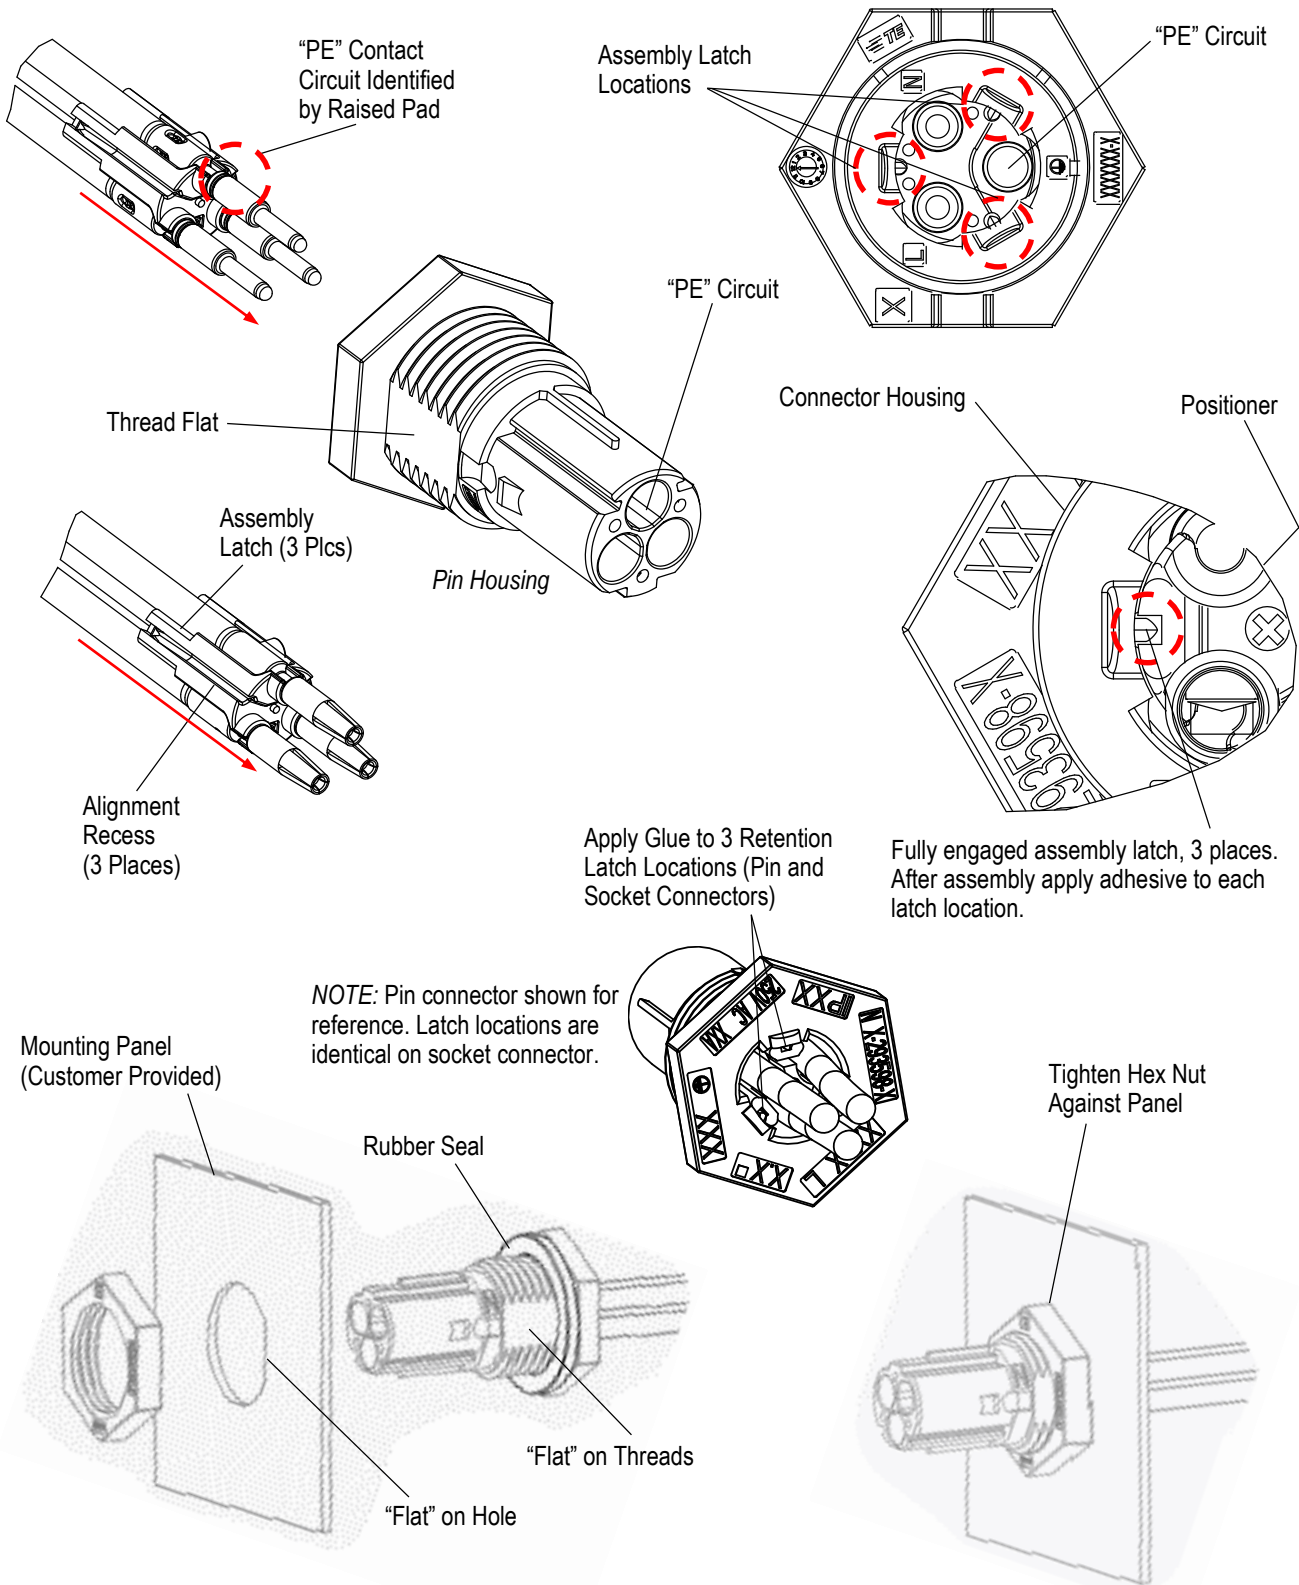
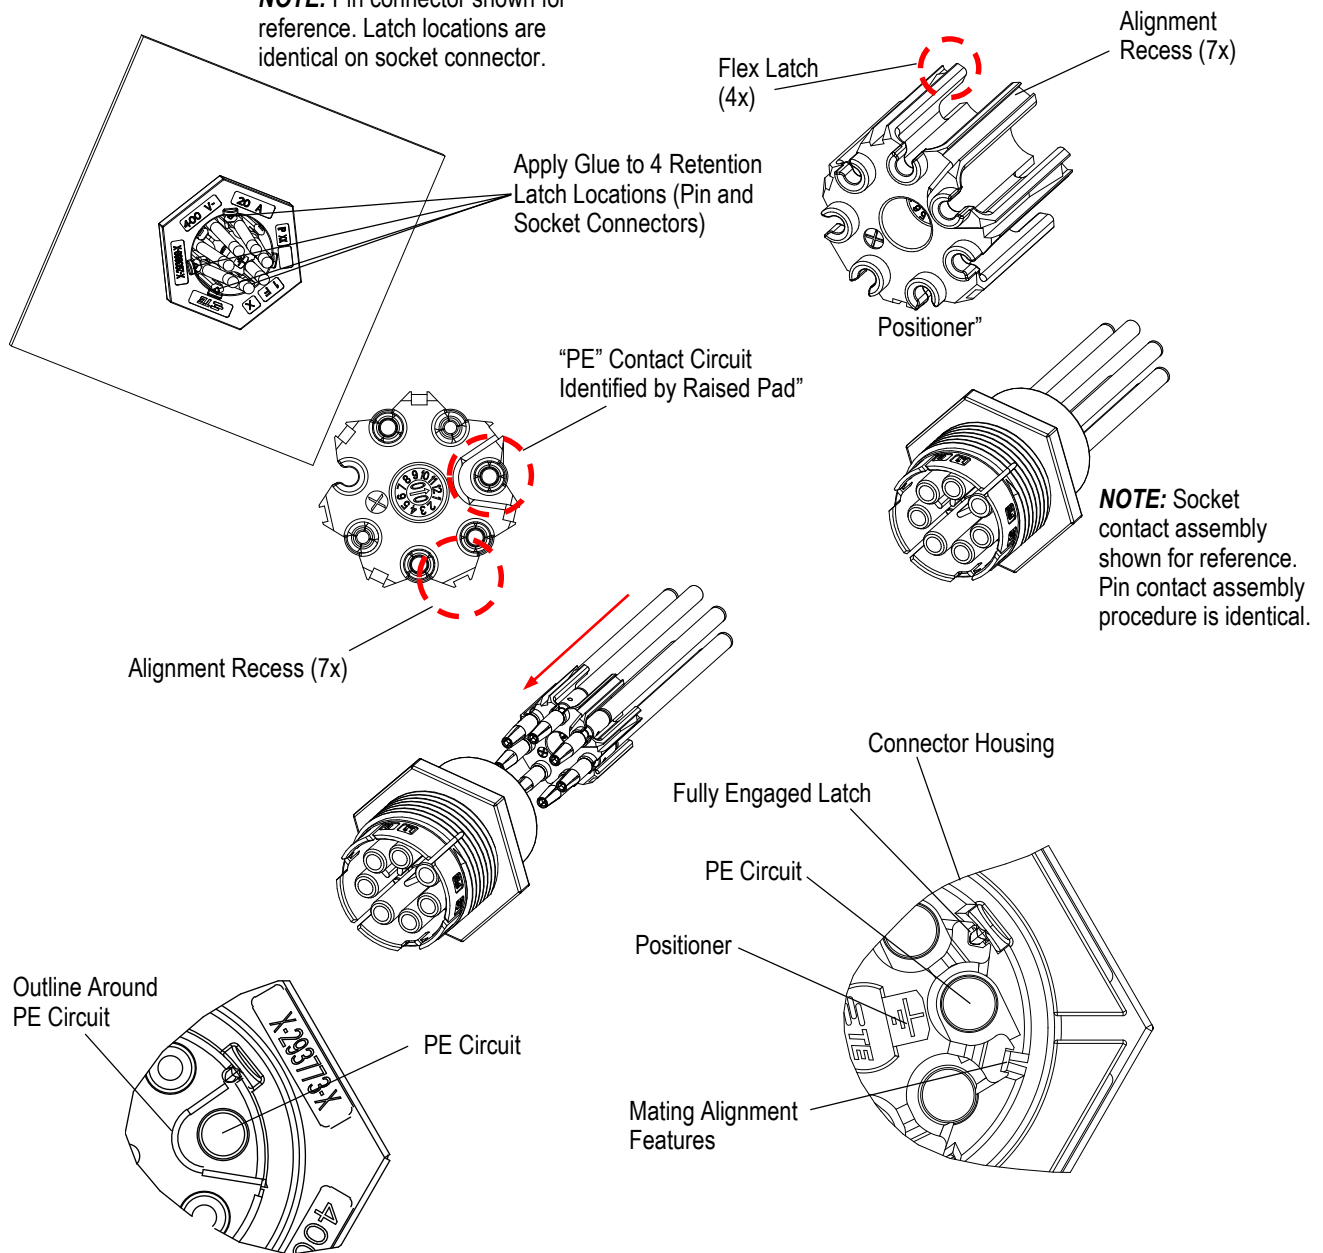

Figure 14
Figure 15
4. Repeat this assembly procedure for each Positioner “contact slot” to receive a contact, maintaining corresponding contact/positioner circuit assignments “L”, “S”, and “N” per Figure 14.
The NECTOR M Standard panel-mount connectors are assembled by inserting a contact positioner assembly into the panel-mount housing, as shown in Figure 14 (NECTOR M 3-circuit) and Figure 15 (NECTOR M 5/6/7-circuit).
Reference Figure 14 for identification of PE circuit on NECTOR M 3-circuit product and Figure 15 for NECTOR M 5/6/7 circuit product.
5. After assembly, apply Loctite 401 or 414 adhesive to each assembly latch location (3 locations on 3-circuit, 4 locations on 5/6/7-circuit), taking care not to fill adhesive onto crimp contacts. Reference Figures 14 and 15 for location of adhesive application.
Panel-mount connectors are installed into mounting panel as follows (ref Figure 14, applies to NECTOR M 3-circuit and NECTOR M 5/6/7-circuit):